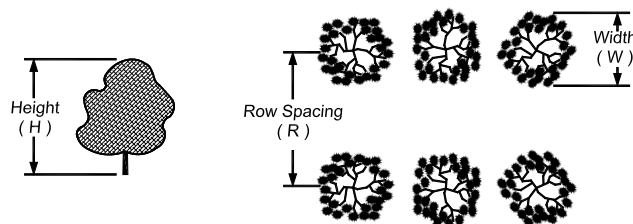

Figure 1. Measurement data (in meters) required for TRV calculation ( h=tree height, r=distance between rows, w=canopy width).
- (1) Physical measurements (in meters) of trees in each uniform orchard block (Fig.1).